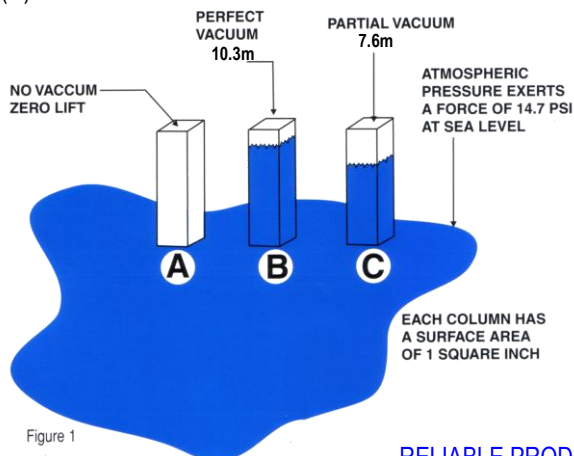

Figure 1
Figure 1 shows three hollow tubes, each with a surface area of 1 in² rising from sea level up into the atmosphere. In tube (A) atmospheric pressure is the same inside the tube as it is outside: 14.7 PSI. Since the weight of the atmosphere is being exerted equally across the surface, no change occurs in the water level inside the tube.